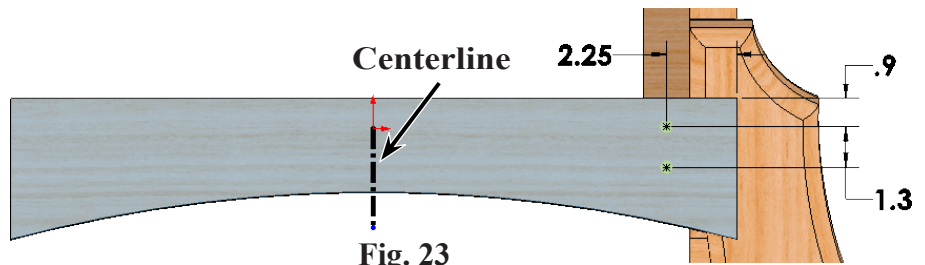

Fig. 23
Step 10. Sketch a vertical centerline down from Origin , **Fig. 23**.